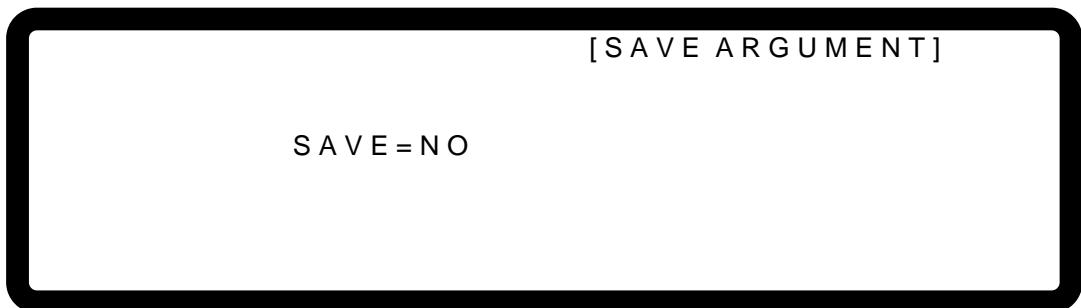

Figure 3-124
12. The current calibration is done once the above actions are completed and the DC Power Supply output is turned OFF. To save the calibration data, pressing “” will display a confirmation page as shown in Figure 3-124. Press “” or turn the “Rotary” ()